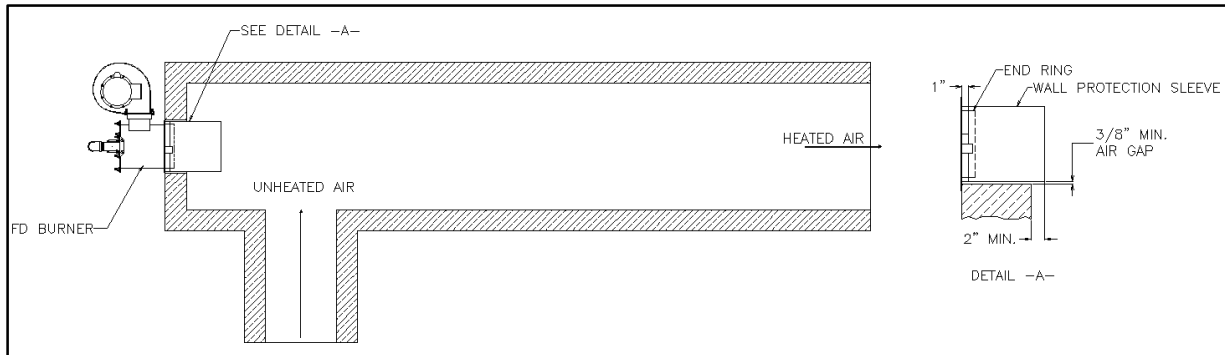
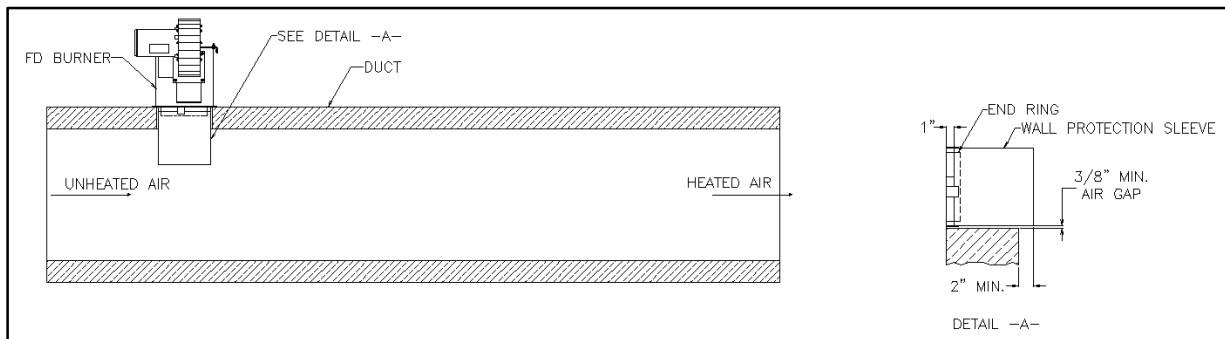

Figure 1: FD/FDM burner L configuration
Figure 2: FD/FDM Burner Cross Flow Configuration
- 2.1.4 The FD/FDM burner can be mounted on the heating/combustion chamber end wall (Figure 1) or through the chamber sidewall in a cross flow configuration (Figure 2). In either configuration, the mounting wall should be designed to properly support the burner assembly and be constructed of suitable fire retardant, insulating materials. The combustion chamber or heat exchanger should be inspected to ensure that the internal surfaces are clean and that, as appropriate, all access doors, cracks or openings are tightly sealed.
- 2.1.6 For direct fired, cross flow configurations, the FD or FDM burner assembly should be fitted with the extended combustion tube that extends through the combustion chamber wall and into the process air stream (see Figure 2). The extended combustion tube is constructed from stainless steel and is designed to shield the flame from cross flow air or products of combustion that exceed 20 ft/sec.
- 2.1.8 Bolt the burner assembly rigidly onto the combustion chamber or heat exchanger front wall as shown in Figures 1 and 2. It is important to achieve a tight seal between the burner front flange and the chamber wall. The use of a high temperature gasket is recommended. Mounting flange gaskets are available from Power Flame.